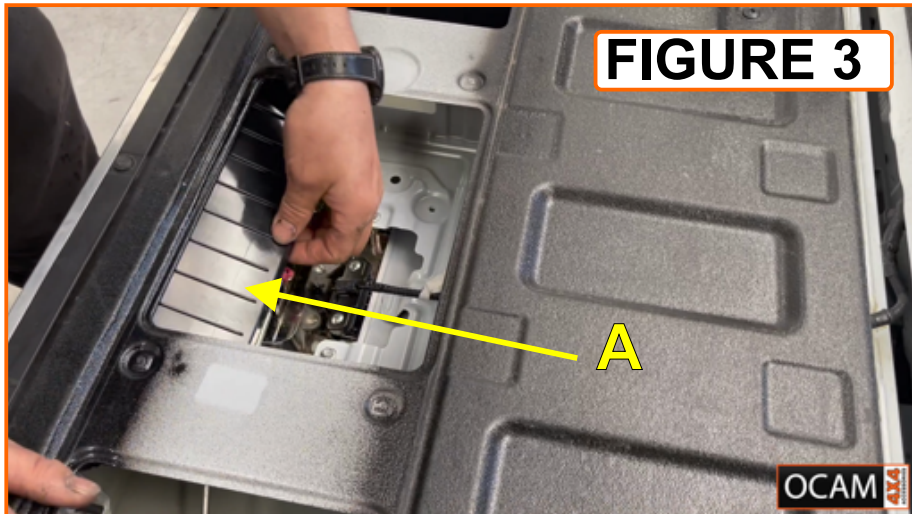
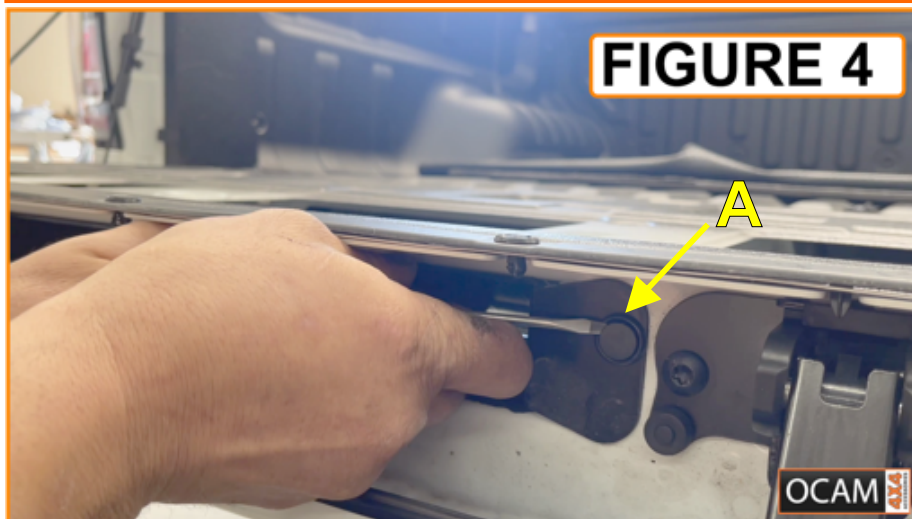

FIGURE 3
FIGURE 4
Step 3. Remove the plastic tail gate lock mechanism cover panel (**A in figure 3**) by removing the retaining clips located on each end of the escutcheon panel located on the out side of the tail gate, (**A in figure 4**). To remove the retaining clips use a suitable screwdriver or similar to carefully prise the centre pin out of the retaining clip as shown in **figure 4**. Do not use excessive force. When the centre pin is withdrawn fully the retaining clip can be removed. Remove the cover panel by pushing the panel outwards from the inside of the tail gate. The panel may need to be flexed to assist removal.